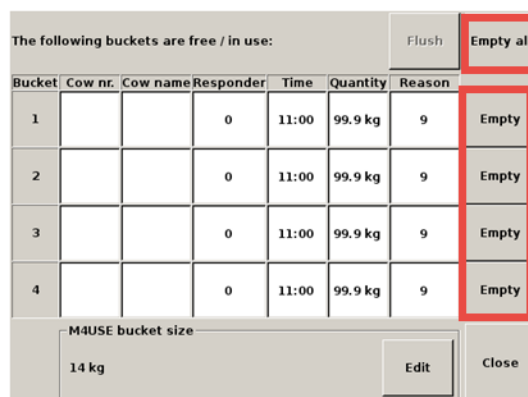

Figure 19. Empty the buckets
2. Button **Empty all** (see figure 19 on page 4-3).